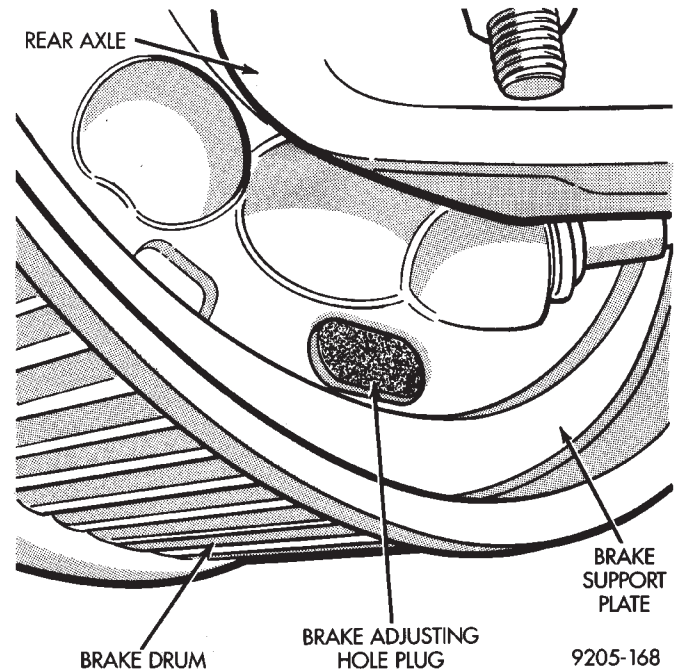

Fig. 4 Brake Adjusting Hole Plug
(1) Raise the vehicle so all wheels are free to turn. See Hoisting Recommendations in the Lubrication And Maintenance Section, at the front of this service manual.
(2) Remove rear brake adjusting hole rubber plug (Fig. 4), from the rear brake shoe support plate.
(6) Repeat above adjustment at the other rear wheel. Install adjusting hole rubber plugs (Fig. 4) in rear brake supports.
(7) Adjust parking brake **after** wheel brake adjustment. See parking brake adjustment, under Parking Brakes in this group of the service manual.
support plate (Fig. 4) to provide access to the adjuster star wheel. Then, to eliminate the possibility of maximum adjustment, where the adjuster does not operate because the closest possible adjustment has been reached. Back the star wheel off approximately 30 notches. It will be necessary to hold the adjuster lever away from the star wheel to permit this adjustment.